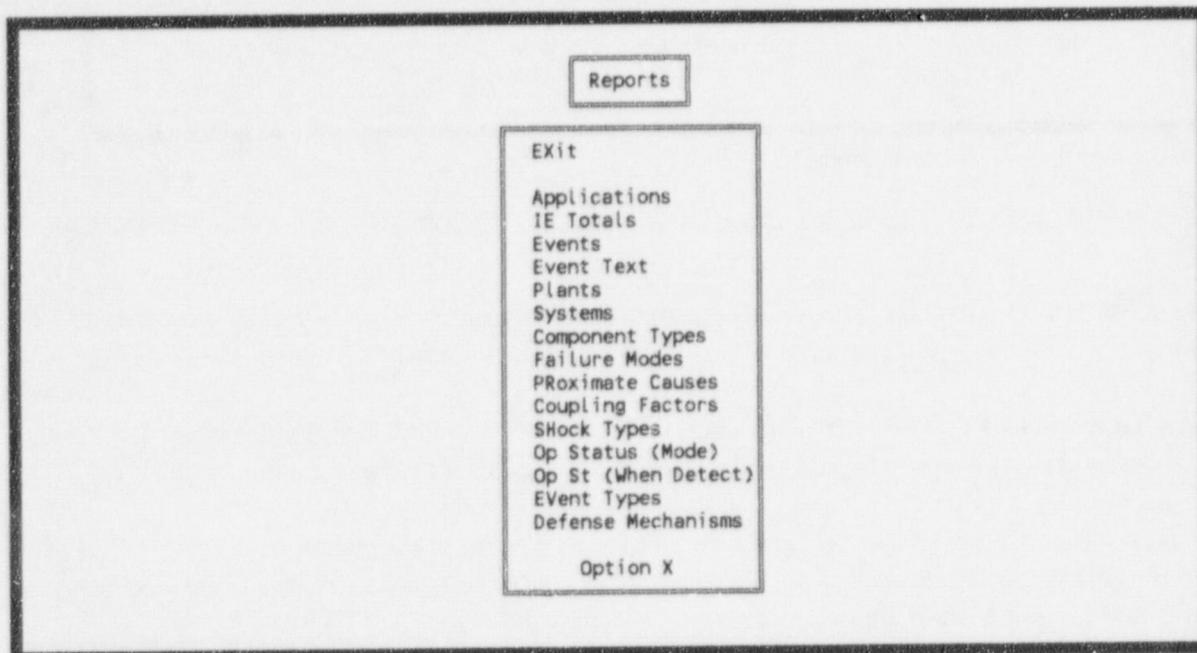

Figure 59. Reports main menu.
REPORT generates report outputs based on: applications, independent events (IE) totals, events, event text, etc. To generate a report, type **R** or use the up and down arrow keys to highlight REPORTS. Press <Enter> to access the Reports main menu (Figure 59).
To produce this report, type **E** on the Reports main menu (Figure 59) or use the up and down arrow keys to highlight Events. Press **<Enter>** to access the Events Report screen (Figure 64). On this screen, you must indicate the sort order for the report. As shown, you can sort the report by plant name, system, component types, or failure modes. Sort the events by highlighting an order or select an order by entering the highlighted letter. Press **<Enter>** to access the Report Options screen (Figure 63). Refer to Section 5.1.